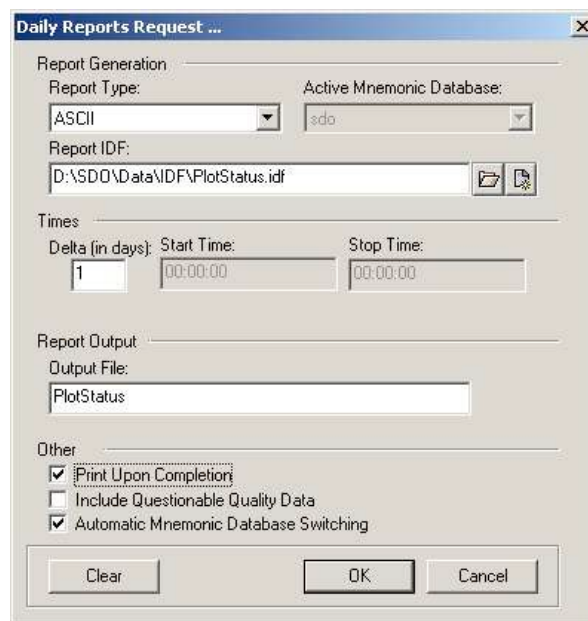

Figure 84: Daily Production - Report Request
- Select the report type on the report request dialog screen (see Figure 84).